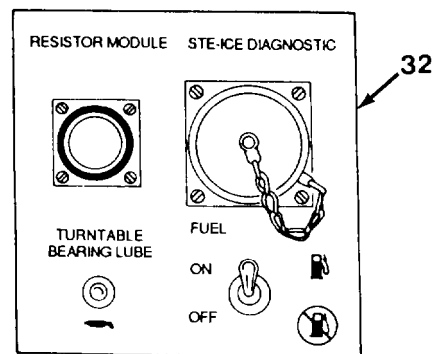

Figure 4-13. *Diagnostic Connector Panel*
32. **Diagnostic Connector Panel** is located in rear of operator's cab to plug in Vehicle Test Module (VTM) to run STE/ICE tests. Fuel shut-off switch is part of STE/ICE system and always remains on unless it is used for STE/ICE tests (Figure 4-13). Panel also has lubrication fitting for turntable bearing. For lubrication instructions, refer to Appendix B.